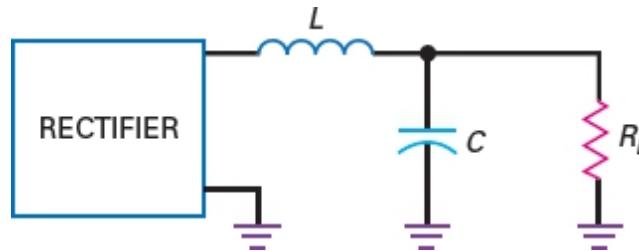

Figure-52 Rectifier with Choke-input filter
- Figure-52 shows a choke-input filter between a rectifier and a load. The rectifier can be a half-wave, full-wave, or bridge type. What effect does the choke input filter have on the load voltage?